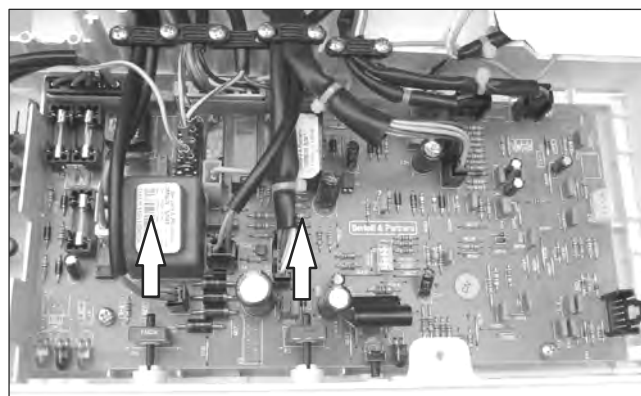

Fig. 9.12
- 3 Remove the spindles of the c.h. and d.h.w. temperature adjustment knobs by delicately pulling them with pliers in the direction shown by the arrow in Fig. 9.12.